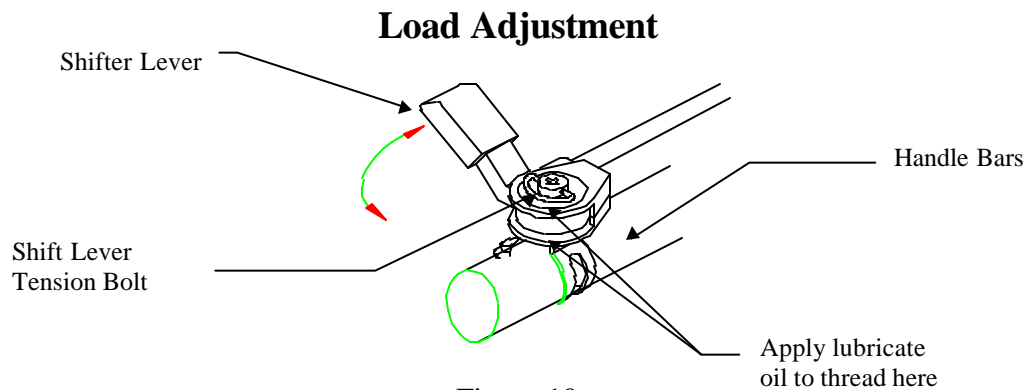

Figure 10
2. Set the shift lever at the full load position (counter clockwise, Figure 10). Gently move the crank arm back and forth being careful not to rotate the flywheel. The movement of the end of the crank arm (at the pedal) should not be more than 1/8 of an inch. If the movement of the arm is greater than 1/8 of an inch the chain may be out of adjustment.
1. Using one hand, clamp two fingers on top and a thumb on the bottom of the shifter assembly unit. Loosen the shift lever tension bolt about $\frac{1}{8}$ of an inch (Being careful not to allow the small plastic shifting spring inside the Shifting assembly unit to fall out). Lift the shift lever tension bolt, the thread should be visible (Figure 10).
- A friction belt supplies the desired load. This load may be adjusted by simply turning the Shifter Lever located on the handle bars (Figure 10).
2. Set the shift lever at the full load position, counter clockwise (Figure 10), gently move the crank arm back and forth being careful not to rotate the flywheel. The movement of the end of the crank arm (at the pedal) should not be more than **1/8 of an inch**. If the movement of the arm is greater than 1/8 of an inch the chain may be out of adjustment.
2. To tighten the lever, rotate the shift lever tension bolt (see figure 10) clockwise until the desired tension is achieved.